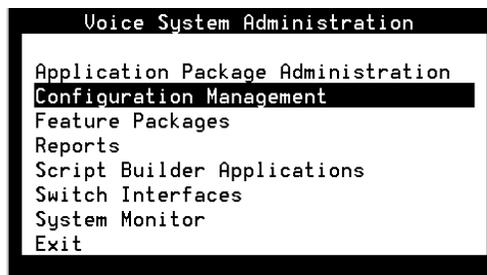

Figure 7-1. Voice System Administration Menu
The system displays the Voice System Administration menu (Figure 7-1)
10. Press **F6** (CANCEL) until you reach the Voice System Administration menu (Figure 7-1) if the test completed successfully, and continue with the next procedure on your checklist.